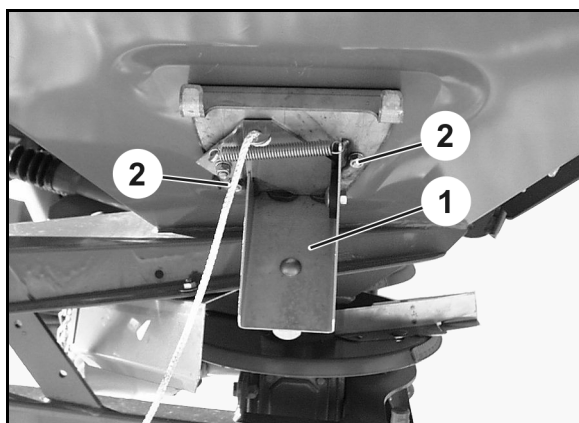

Fig. 42
2. Mount the outlet chute (Fig. 42/1) using the fastening screws (Fig. 42/2).